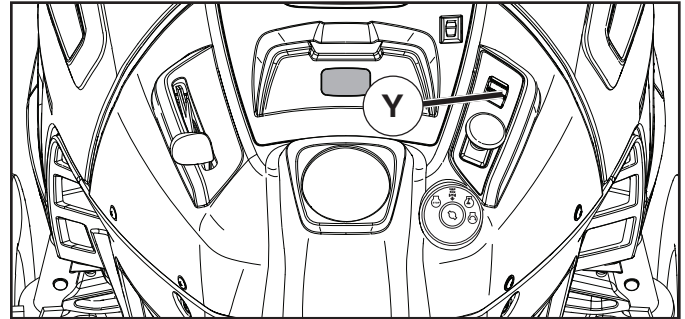

Fig. 21
TO USE DIFFERENTIAL LOCK CONTROL (Y) (See Fig. 21)